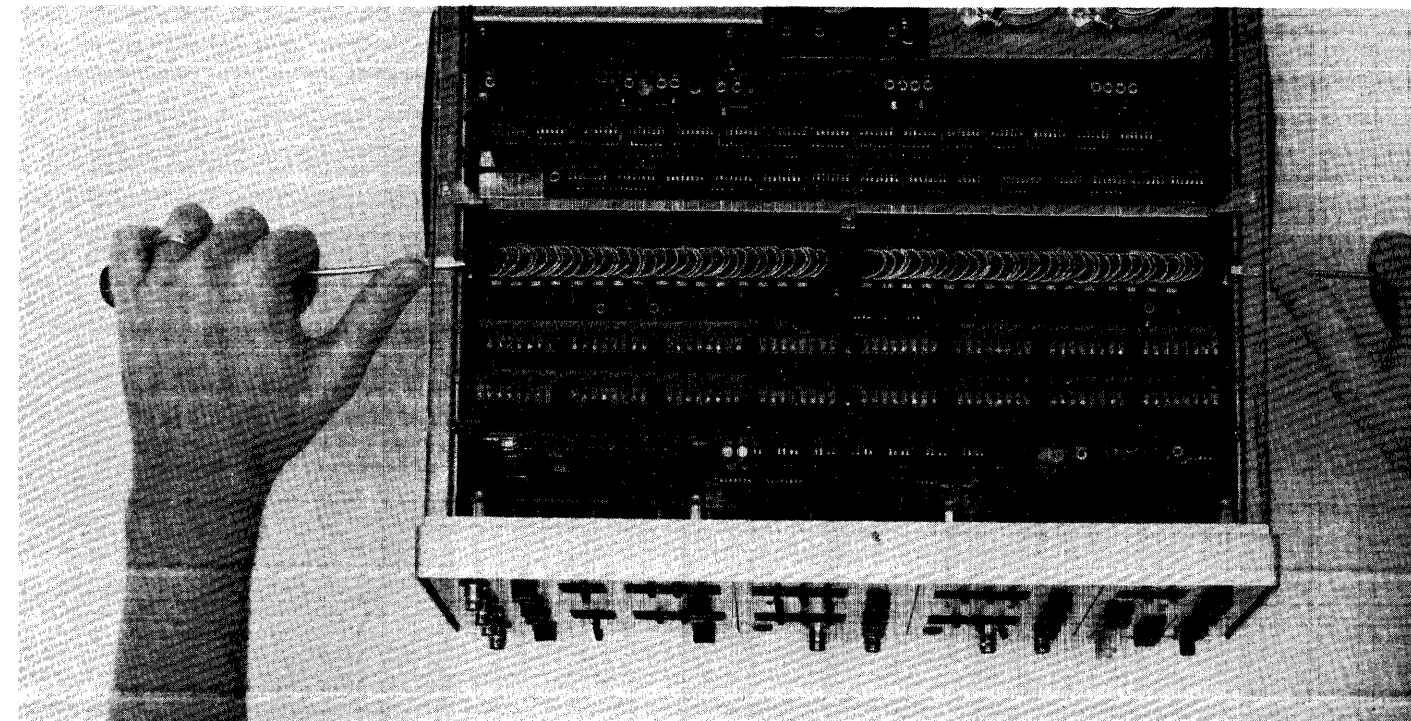

FIGURE 1
1. Remove 4 screws from top cover. 2. Remove top cover. 3. Remove Hold-down bracket, 1 screw. 4. Using two flat bladed screwdrivers, lift cards as shown in Fig. 1. NOTE: For Input Board, move finger board to the left with finger, Fig. 2. 5. Re-install cards by aligning card over slot in connector and prying cards back with screwdrivers or push firmly with hands on top edge of card.